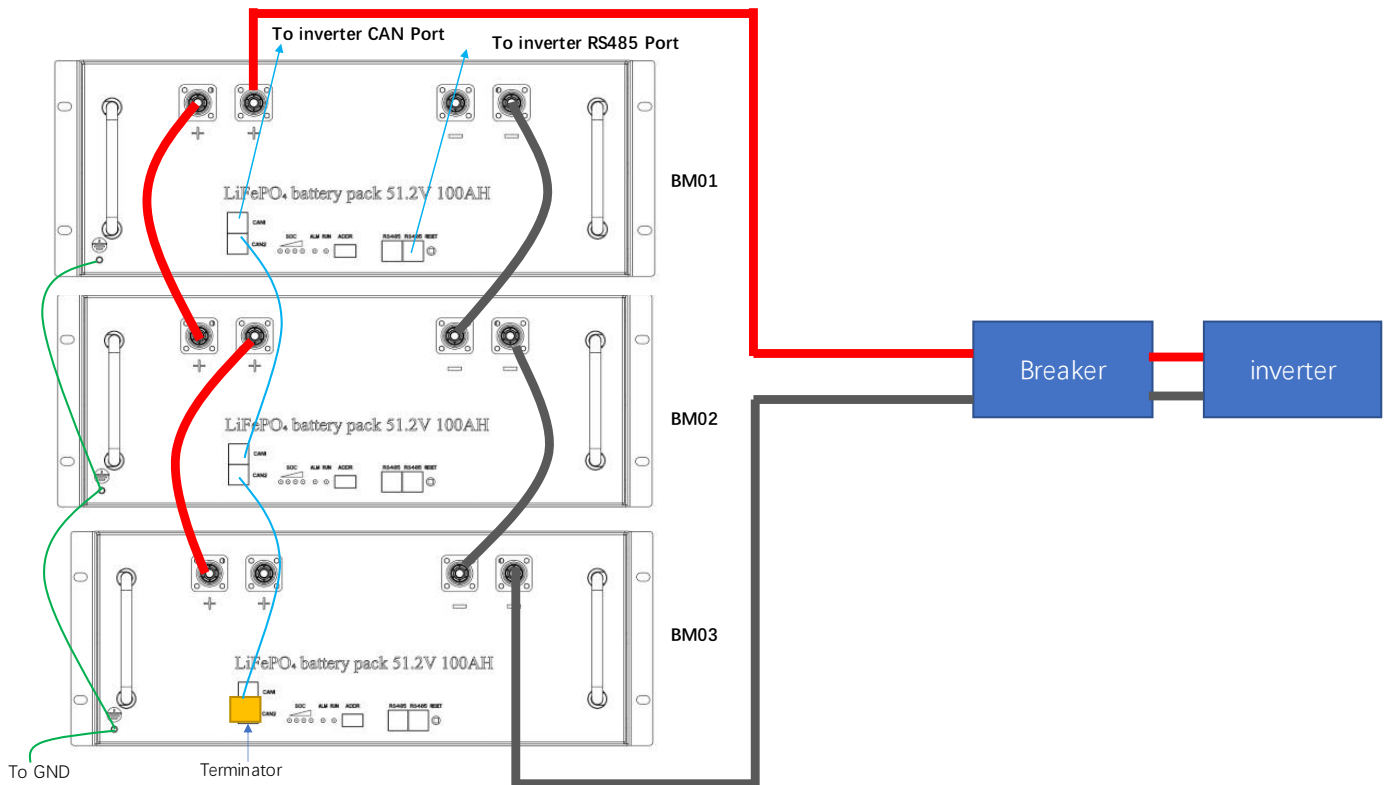

Figure 4. Wiring example for parallel connection
5. Connect the CAN communication interface between the batteries, set the dial switch address as Table3-5, and insert the matching resistance terminal into the CAN port at the end of battery, as Figure 4.